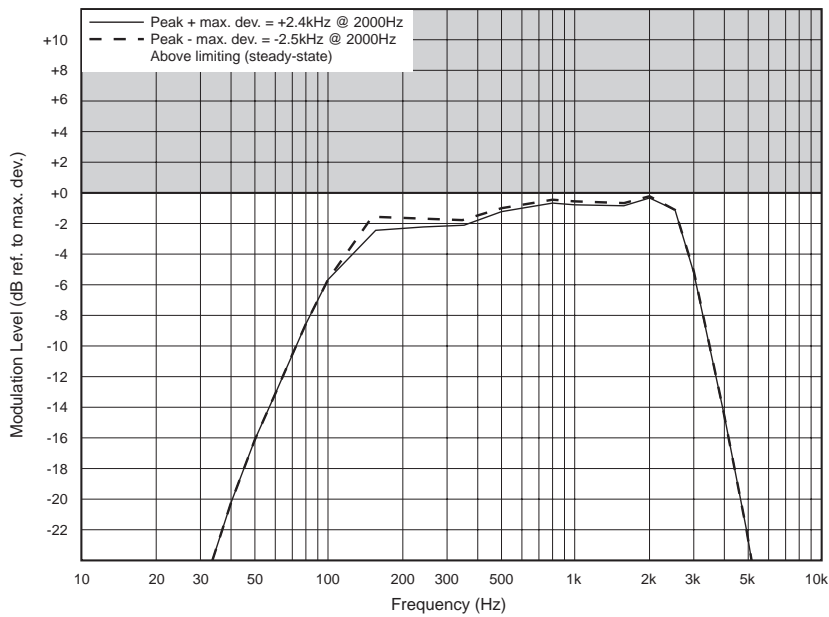

Figure 4.3 T867 Limiting Response
If the T867 has been correctly adjusted, the pre-emphasis and limiting responses should closely match those shown in Figure 4.2 and Figure 4.3 respectively.
- The response should closely match that shown in Figure 4.3.